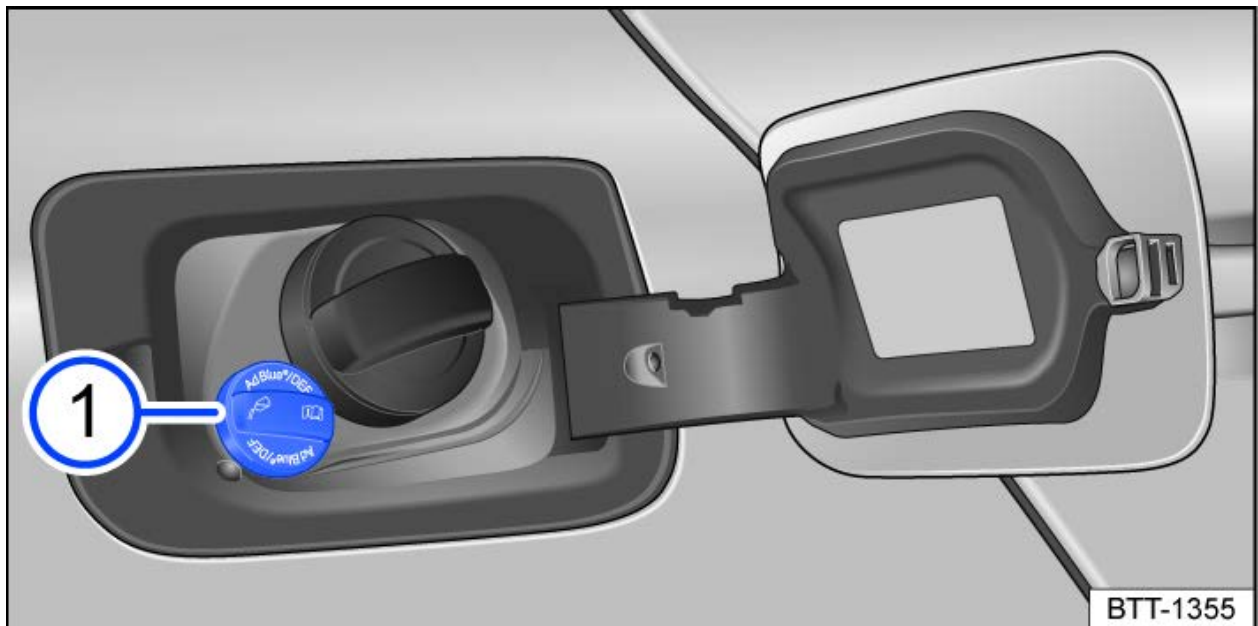
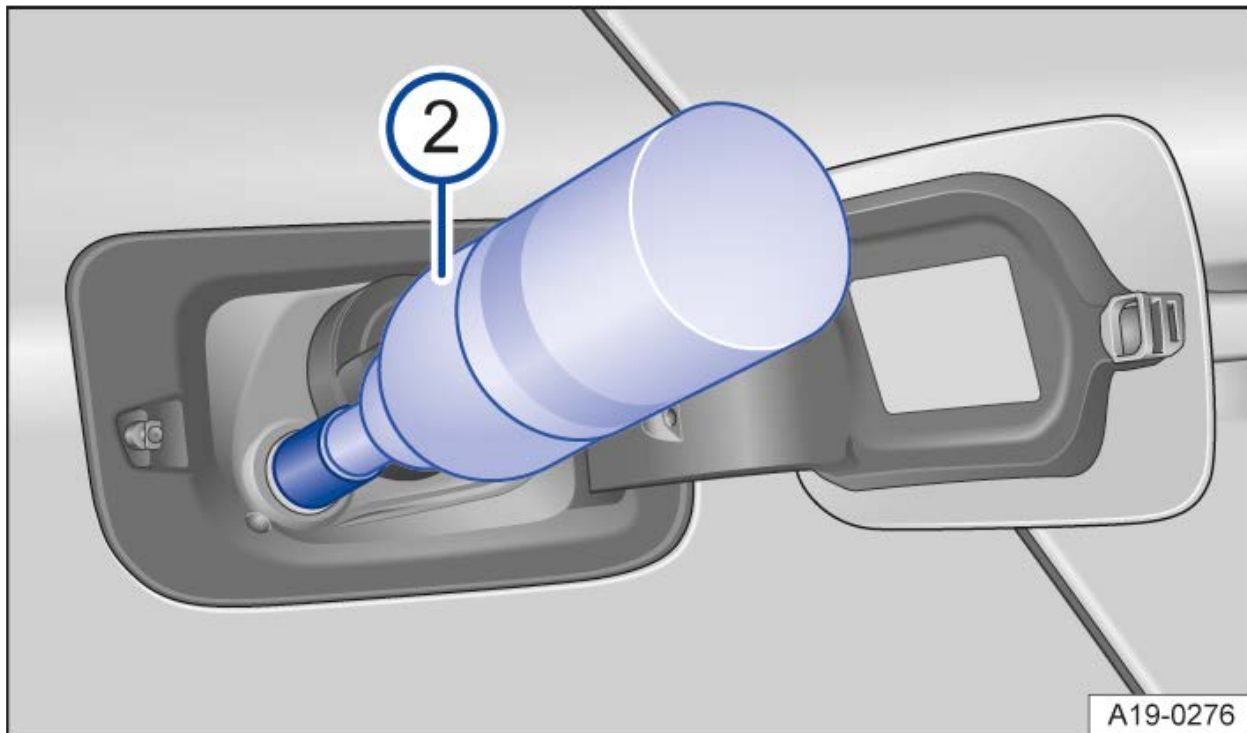
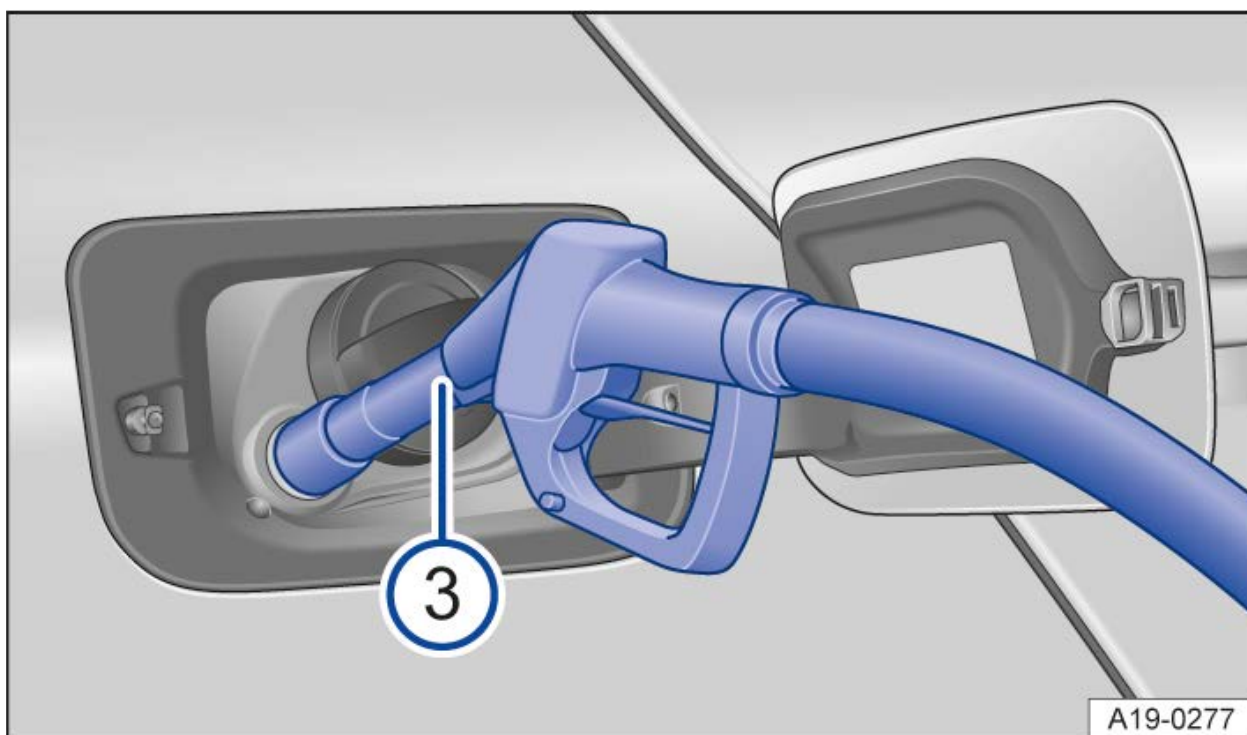

Fig. 1 Behind the fuel filler flap: fuel tank cap for AdBlue (general example).
Fig. 2 Behind the fuel filler flap: filling up AdBlue with the refiller bottle (general example).
Fig. 3 Behind the fuel filler flap: refuel AdBlue with the fuel pump nozzle (general example).
Key for *fig. 1*, *fig. 2* and *fig. 3* :
The AdBlue® filler neck is located behind the fuel filler flap next to the fuel filler neck → *fig. 1*.
- Hold the handle of the AdBlue® fuel pump nozzle facing downward to guarantee optimum refueling → *fig. 3*.